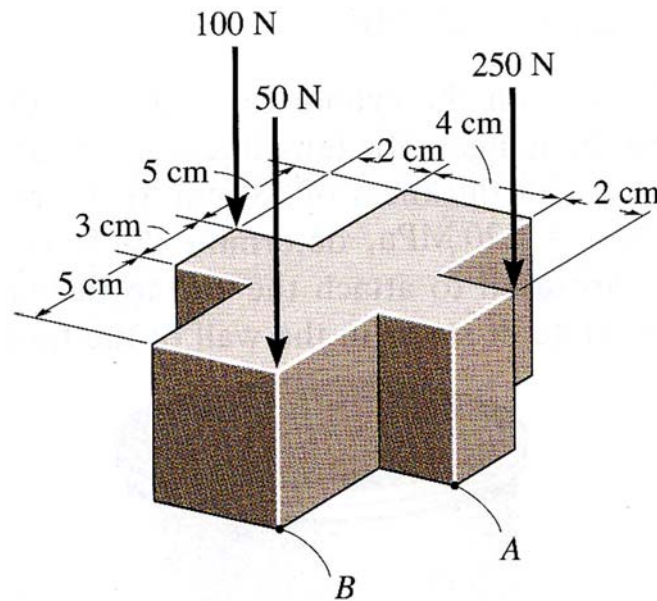

Figure Q4 [a]
- Q4. [a] The block as shown in Figure Q4 [a] is subjected to three axial loads. Due to the different distance of points A and B from the loading locations, the state of stresses will be very much dissimilar. By neglecting the weight of the block, determine the normal stress developed at both points A and B.